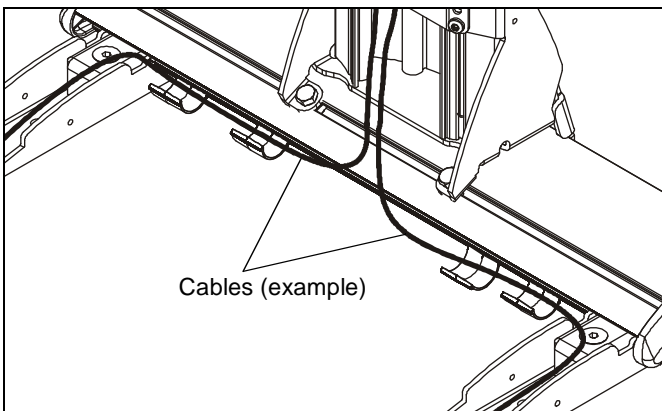

Figure 29
7. Thread cable up wall bracket channel and into opened cable clips. (See Figure 29) **Proceed to Step 9**